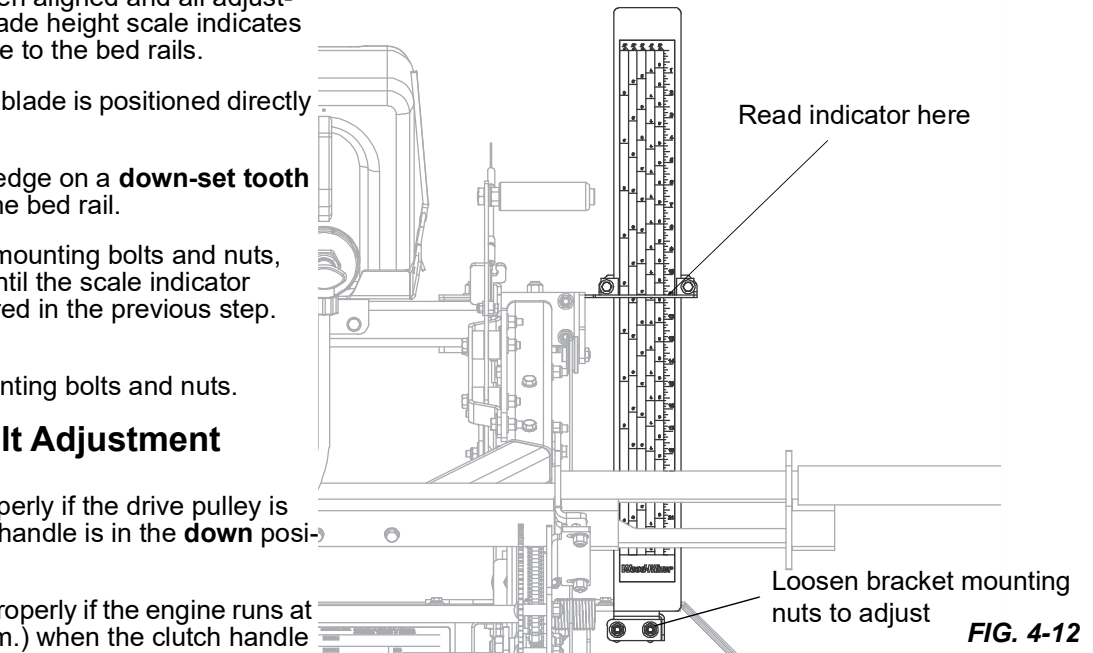

FIG. 4-12
3. Loosen the scale bracket mounting bolts and nuts, adjust the scale position until the scale indicator reads the distance measured in the previous step. See Fig. 4-12.